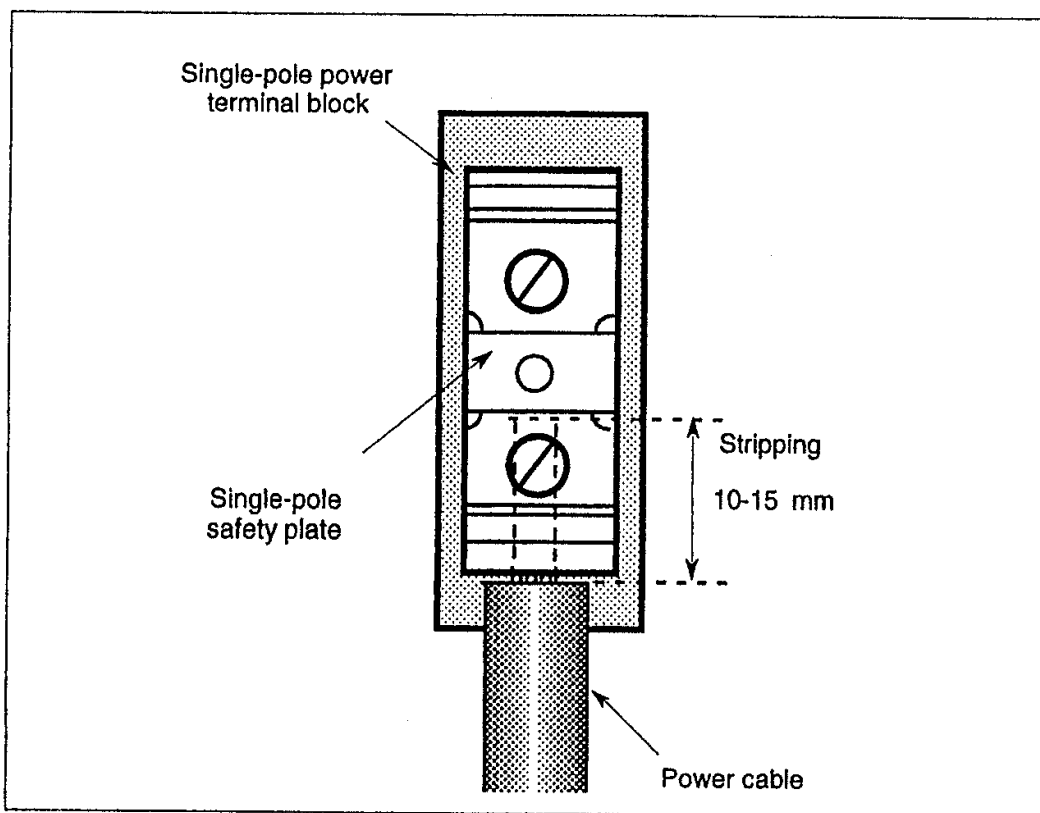

Figure 3-2 TU1471 thyristor unit power wiring
- remove the single-pole safety plates on the power terminal block at the bottom of the thyristor unit (see figure 3-2)